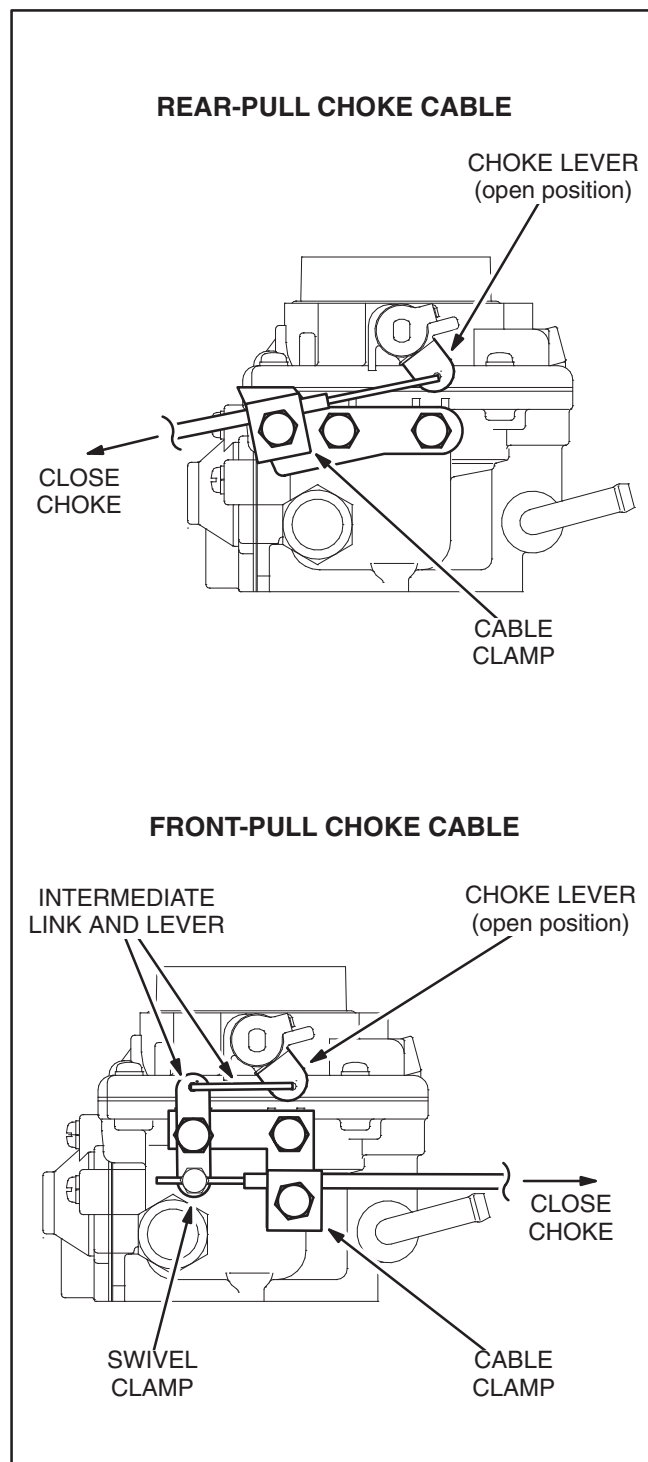

FIGURE 5. FRONT-PULL AND REAR-PULL CHOKE CABLE ARRANGEMENTS
Referring to Figure 5, reconnect and reclamp the choke cable as follows:
3. Connect the choke cable to the choke lever. (The cable will either hook into the choke lever or be clamped by a screw in a swivel on the choke lever. See Figure 5.) Pull the slack out of the cable and clamp it.